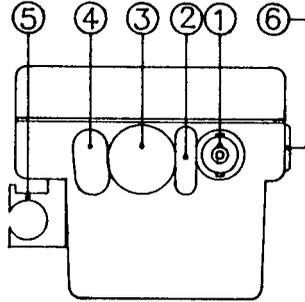

FIGURE 2. TOP VIEW
- 1.1 Connect the pH electrode and the ATC/Temp probe to the appropriate connectors on top of the instrument. Refer to **Figure 2**. The **AUTO** annunciator will be on, indicating Automatic Temperature Compensation is in progress. Press the **MODE** key to enter into the **pH** mode. The **pH** indicator will be on and the **STAND** annunciator will flash.
- 2.1** Connect the pH electrode to the instrument. Refer to **Figure 2**. The **MANual** indicator will be on. Press the **MODE** key to enter the **pH** mode. The **pH** indicator will be on and the **STAND** annunciator will start to flash.
- 2.1 Connect the pH electrode to the connector of the instrument. Refer to **Figure 2**.
1.2 Connect the ATC/Temp probe to the input connector. Refer to **Figure 2**.